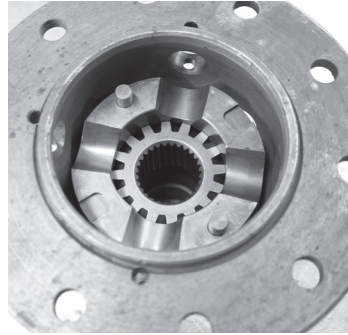

Figure 4-D
- Place first driver onto side gear. *Figure 4-D*